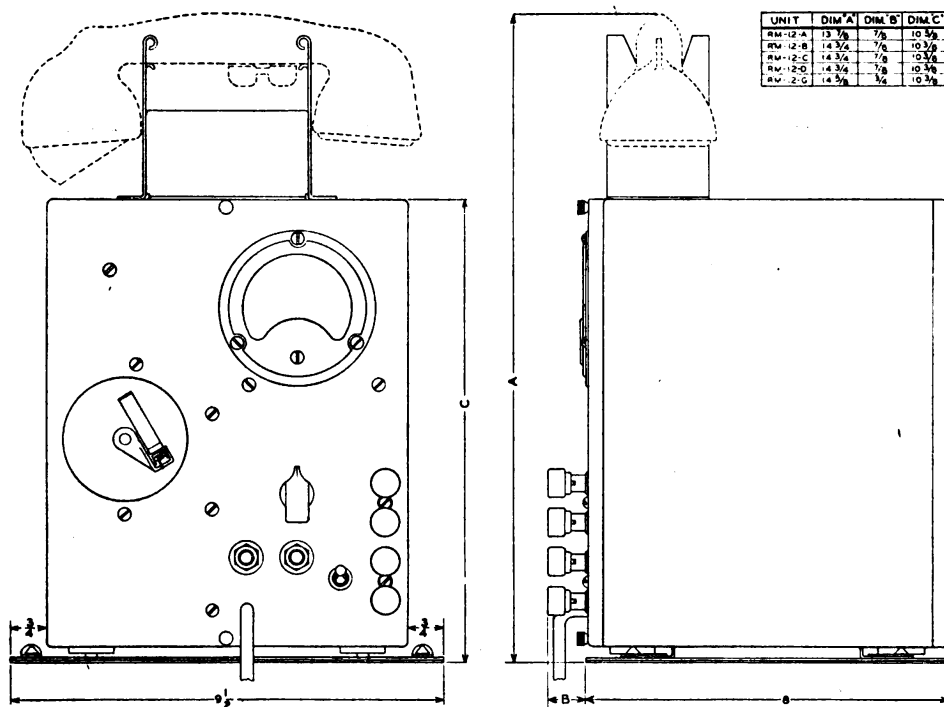

Fig. 11—Remote Control Unit RM-12-(*)—outline dimensions
a. **Control Unit RM-12-(*)** is a self contained unit with the dimensions as shown in figure 11. Switching, control, and indicating equipment as well as facilities for external connections which are mounted on the front panel consist of:
- (1) 1 - Volume indicator meter (-10 to +6 db scale)
- (2) 1 - Volume control switch
- (3) 1 - Jack JK-33-A (microphone)
- (4) 1 - Jack JK-34-A (key)
- (5) 1 - Microphone cord
- (6) 1 - Key cord (See Note 6)
- (7) 1 - Local remote switch
- (8) 4 - Binding Posts (line connections)
- (9) 1 - Telephone EE-8-B, crank